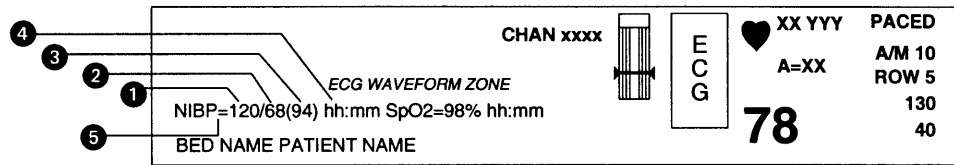
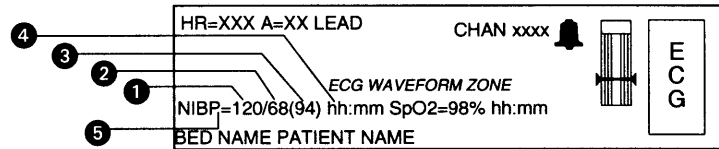

Figure 4-3: Display Zone — Full Screen
Figure 4-4: Display Zone — Split Screen
- 1 Configure 91343 DIP switch 5 to ON (refer to *Figure 4-4* on page 4-7).
9. The 91343 transmitter must be configured for use with the 90217 ABP monitor by opening the battery compartment door, removing the battery, and setting DIP switches 5 ON and 8 OFF. Refer to *Figure 4-4* on page 4-7.
Figure 4-3 and *Figure 4-4* on page 4-7 illustrate typical NIBP displays. You can view NIBP readings from any Ultraview bedside or central monitor on a network. NIBP displays on a split screen central monitor appear in a format slightly different from that of bedside or full screen central monitors. Depending on the patient monitor's display size, the title "NIBP" may not appear.
When any NIBP alarm is detected, the displayed parameter value (refer to *Figure 4-3* and *Figure 4-4*) blinks yellow if the alarm priority is Low or Medium and blinks red if the alarm priority is High. This is done independently of any other ECG or SpO2 alarm indications.